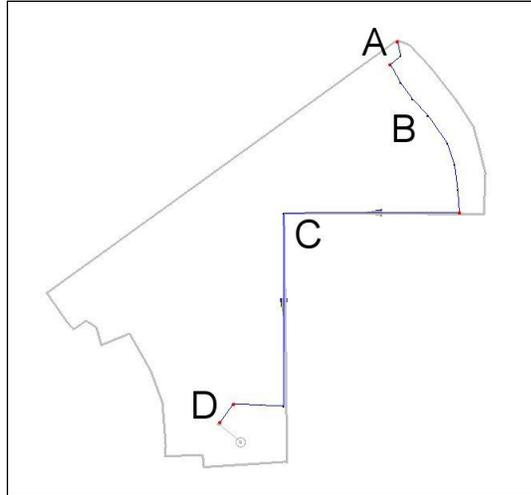

Figure 2 Time computation arcs
The arc has been split into four different segments to assign different equations for determining the travel time for the arc. The different equations assigned to the different arc segments represent different runoff flow types such as sheet flow, shallow concentrated flow, and channel flow. Use Figure 2 as a guide while defining the equations.
3. Using the **Select Feature Arc**  tool, double-click on the arc labeled “A” in Figure 2 to bring up the *Time Computation Arc Attributes* dialog.
10. Using the **Select Feature Arc**  tool, double-click on arc B (see Figure 2) to bring up the *Time Computation Arc Attributes* dialog.
15. Repeat steps 10–13 for arc D (see Figure 2) but enter “NO” as the *Variable value* for the “Paved” line in the *Variables* section.
16. Using the **Select Feature Arc**  tool, double-click on arc C (see Figure 2) to bring up the *Time Computation Arc Attributes* dialog.